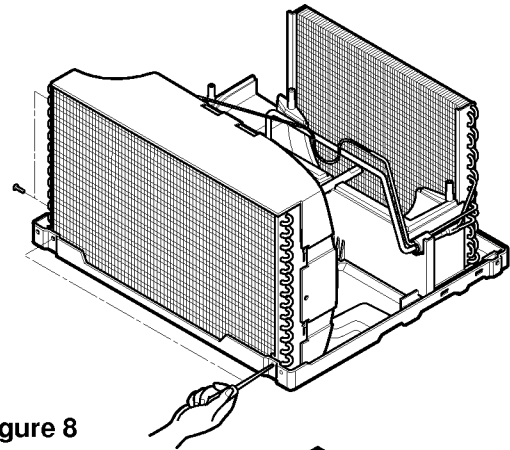

Figure 8
7. Re-install by referring to the above removal procedure. (See figure 8 and 9)